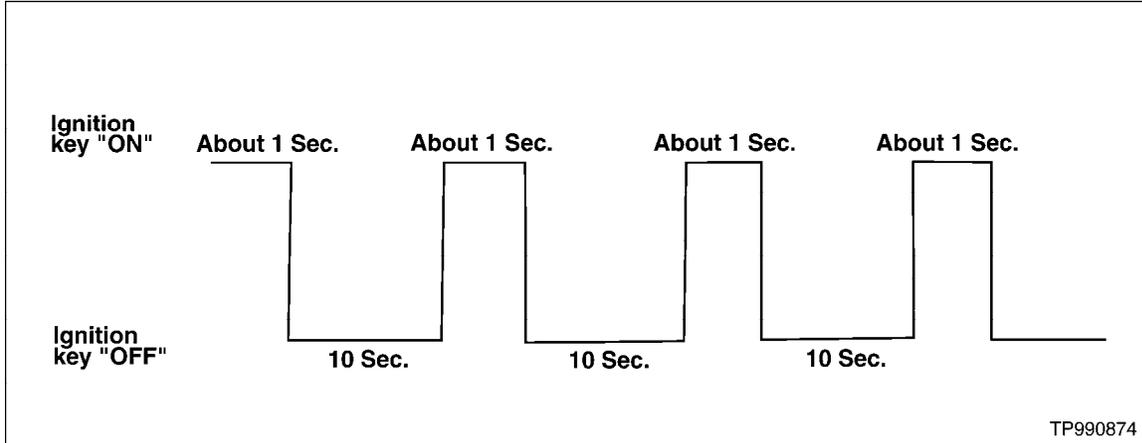

Figure C13
- 23 **Repeat step 16 for a total of three times (see Figure C13). This will reset the ECM "self learned" values.**